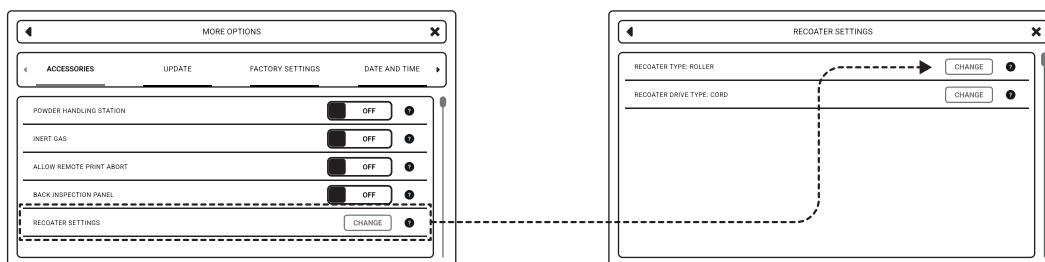

Fig. 10 Recoater blade activation I.
1. On the screen under **SETTINGS**, select the **MORE OPTIONS** tab and then **RECOATER SETTINGS** (fig. 10).
3. Select the **RECOATER DRIVE TYPE** line and press the **CHANGE** button (fig. 10).